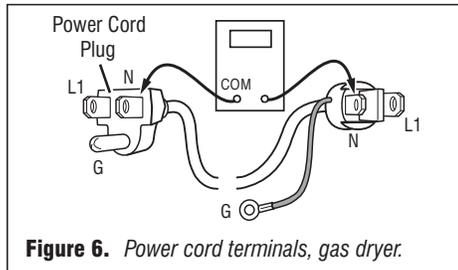

Figure 6. Power cord terminals, gas dryer.
5. With an ohmmeter, check for continuity between the neutral (N) terminal of the plug and P8-3 (white wire) on the machine control board. The left-hand side of figure 6 shows the position of the neutral terminal (N) on the power cord plug. Also see figure 17, page 10.
→ If there is no continuity, disconnect the white wire of the harness from the power cord at the location illustrated in figure 5. Test the continuity of the power cord neutral wire as illustrated in figure 6. If an open circuit is found, replace the power cord. Otherwise, go to step 6.
- If there is no continuity, check the continuity of the power cord in a similar way to that illustrated in figure 6, but for power cord's L1 wire.